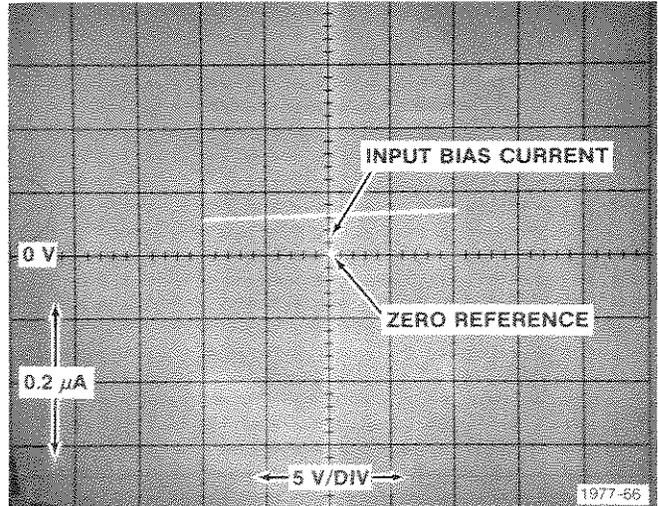

Fig. G-3. Typical display of input bias current.
b. Check that the vertical deflection of the trace is ≤ 2.5 divisions from vertical center at the horizontal center (see Fig. G-3). Reset the VERT UNITS/DIV switch if better resolution is needed.